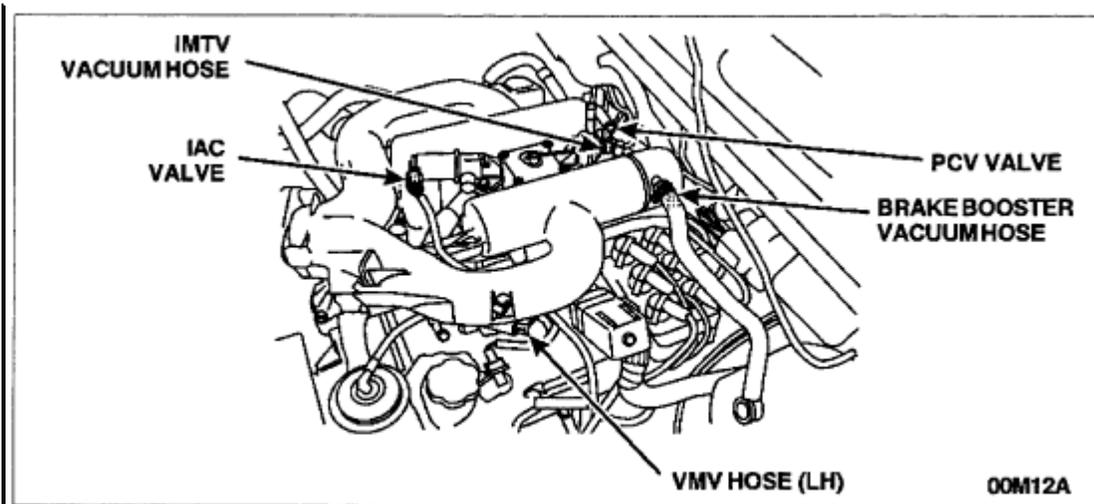

FIGURE 1
6. Disconnect the following vacuum hoses: See Figures 1 and 2.